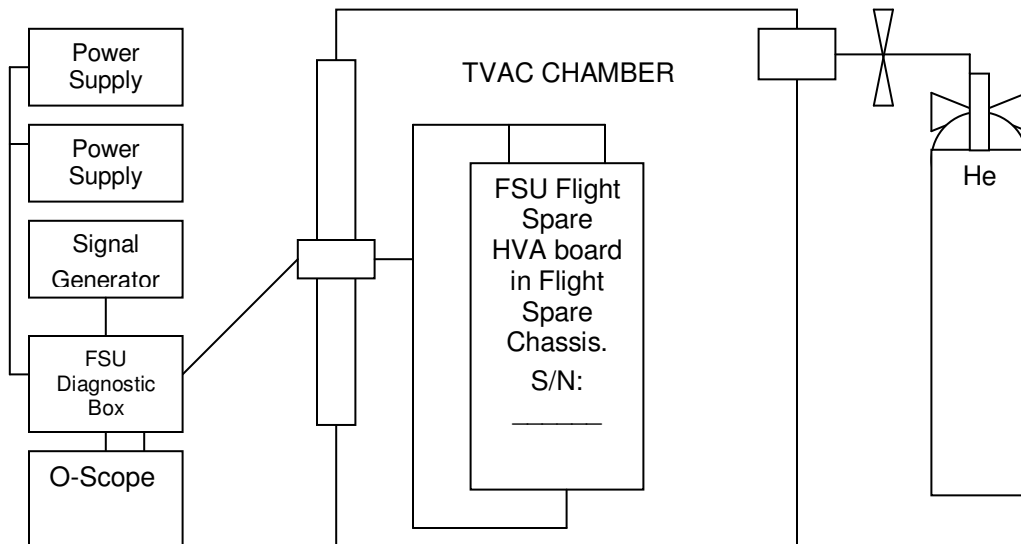

Figure 2 – TVAC Setup
- 13.3 Install test cables, as shown in Figure 2 and described below